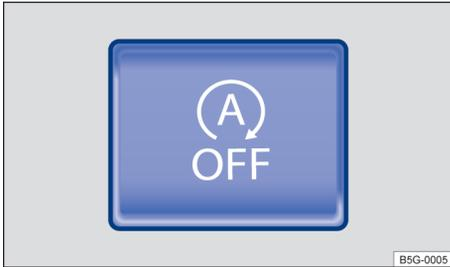

Fig. 99 In the lower center console: Button for the Start-stop system (if equipped).
- Press the  button → fig. 99 to deactivate the system. If Start-stop has been deactivated, the indicator light in the button comes on.
- Press the  button → fig. 99 again to reactivate the system.